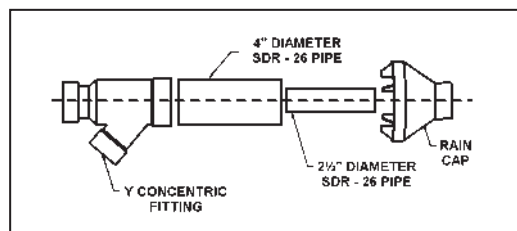

Figure: 24
- Cement Y concentric fitting to larger diameter kit pipe, see Figure 24.
NOTE: If assembly needs to be extended to allow side wall thickness requirement, the 2 pipes supplied in the kit may be replaced by using same diameter, field-supplied SDR-26 PVC (D2241) pipe. Do not extend 21 1/8" (53.6 cm) dimension more than 60" (1.5 m). See "Figure: 24".